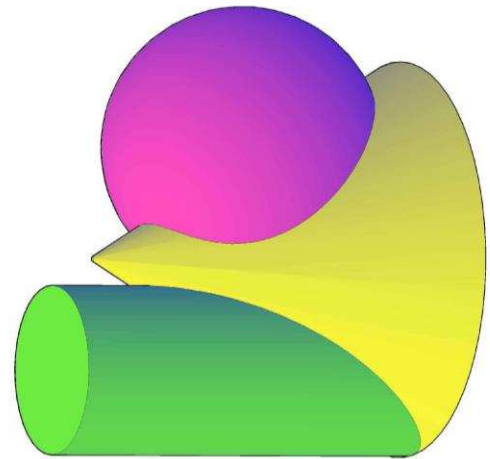
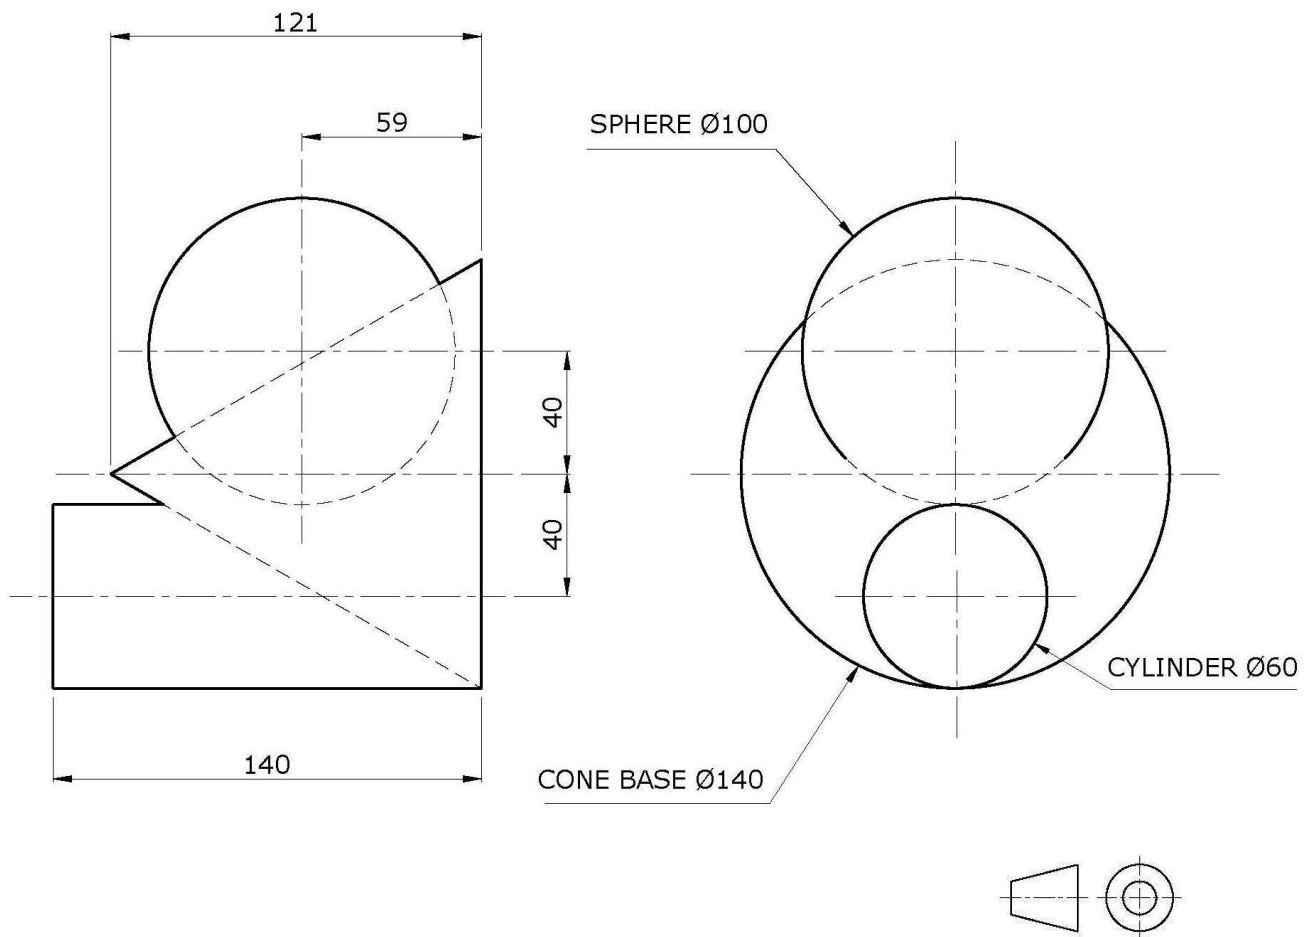

Figure 3a
Figure 3b
3. The illustration, Figure 3a, shows a cone, a sphere and a cylinder joined together. Figure 3b shows a front elevation and an end elevation of the arrangement. The axis of the cone, the centre of the sphere and the axis of the cylinder are aligned on the same vertical plane.
- a) Copy, full size, the **TWO** elevations shown in Figure 3b and draw a plan. (3)
- i) front elevation; (9)
- ii) end elevation; (4)
- iii) plan. (4)